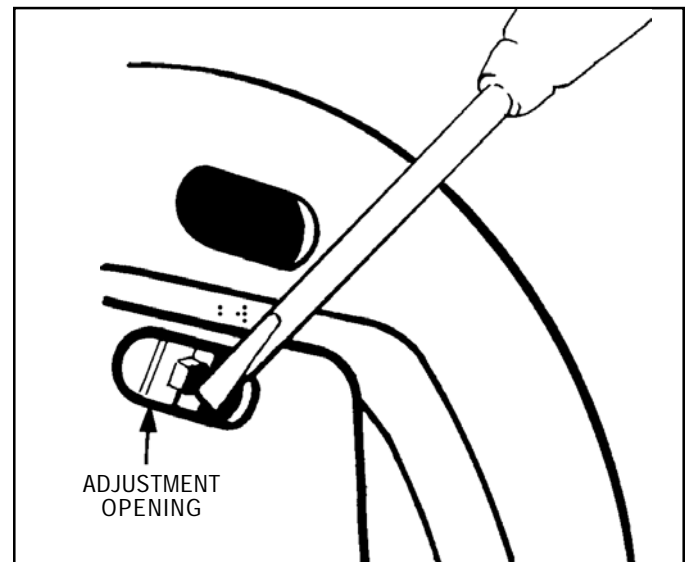

FIGURE 10 - REAR VIEW OF THE BACKING PLATE (DIRTSHIELD)
- A. Remove the rubber grommets from the manual override access holes marked "ADJ" in the backing plate (dirtshield), and insert a blunt screwdriver, or adjusting tool, until it engages the manual override wheel. Refer to *Figure 10*.